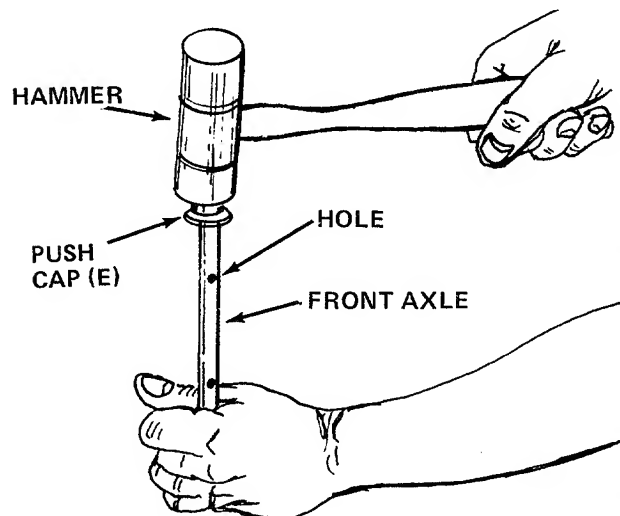

FIGURE 3
3. Using a hammer, tap one push cap (E) onto the end of the front axle which has a hole closer to it. See figure 3.